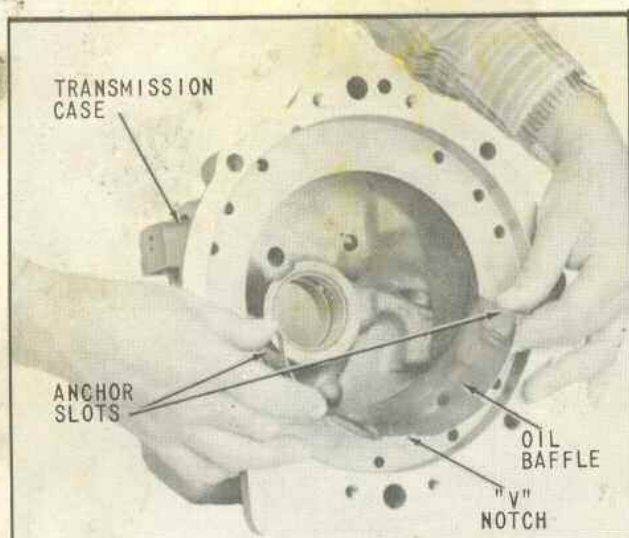

Fig. 23 Installing Model 71B & 71C Baffle
4. Insert the baffle inside the transmission case with the notched side toward the front and the curve of baffle toward the bottom of the transmission case, (Fig. 23).